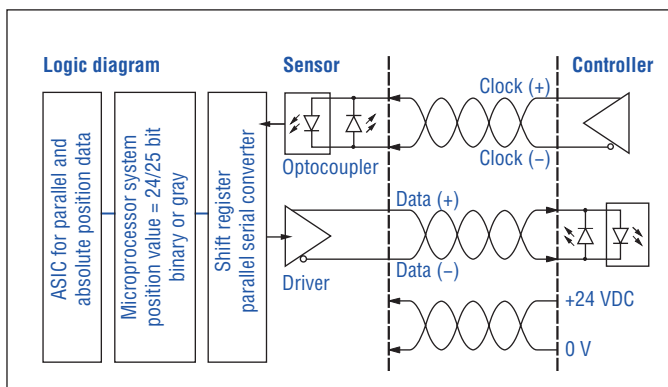

Fig. 22: Schematic connection
5. Check the pre-set span start and end values of the measuring range (Fig. 22) and correct them via the customer's control system if necessary, or via the MTS Sensors service tool. The operation of the service tool is described in detail on the following pages.